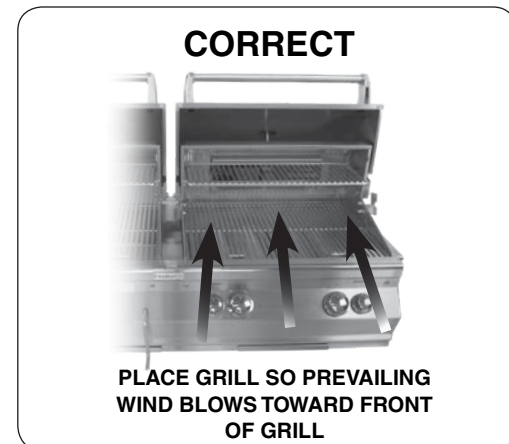
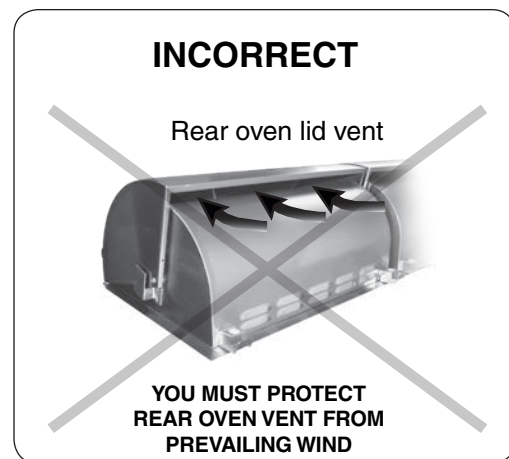

Fig. 12-3 Airflow direction - CORRECT
Fig. 12-4 Airflow direction - INCORRECT
**CAUTION:** Wind blowing into or across the rear oven lid vent (Fig. 12-4) can cause poor performance and/or dangerous overheating. Install the grill so that the prevailing wind blows toward the front of the grill (Fig. 12-3). **A wind deflector is available for purchase to assist in proper airflow during windy conditions (gas side only).** See Table 1 for model numbers. Follow the instructions included with the wind deflector for installation.